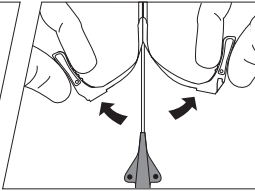

Figure 6
28. Withdraw peel-away sheath over catheter until sheath hub and connected portion of sheath is free from venipuncture site. Grasp tabs of peel-away sheath and pull away from the catheter (refer to Figure 6), while withdrawing from vessel until sheath splits down its entire length.